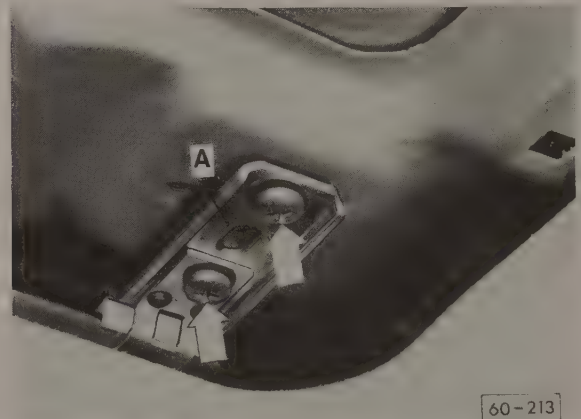

Fig. 7-2. Screws (arrows) to be removed from right and left front guides (A).
2. Close the sunroof and remove the Phillips head screws from the left and right front guides as shown in Fig. 7-2.